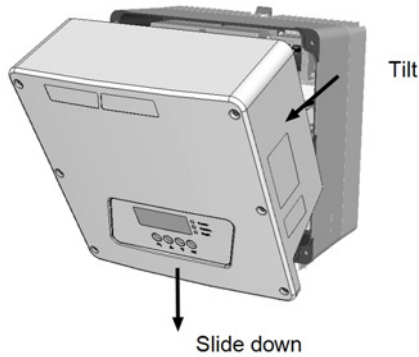

Figure 16: Removing the Inverter Cover
4. Open the inverter cover (see Figure 16):